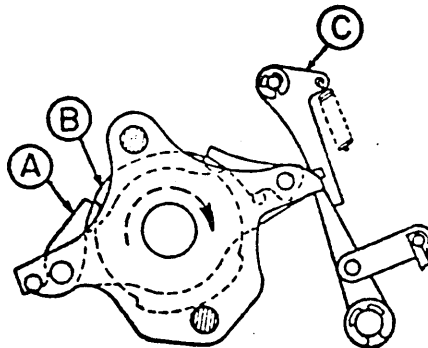

Figure 1
A good method to visually check the timing of clutches is to notice the time at which the detent (A) drops behind the tooth on the clutch drive wheel (B). This may be checked as follows: (See drawing below, Fig. 1)
2. Clutches are to latch at  $310^{\circ} \pm 1^{\circ}$ . Latch time is determined by the time the keeper (Figure 1 C) falls behind the drive arm. With clutch engaged, turn the clutch over until the drive arm is near the keeper. While putting finger pressure on the clutch-driven pulley, in direction of rotation, continue to rotate clutch until keeper snaps behind drive arm. This is to occur at  $310^{\circ} \pm 1^{\circ}$ .